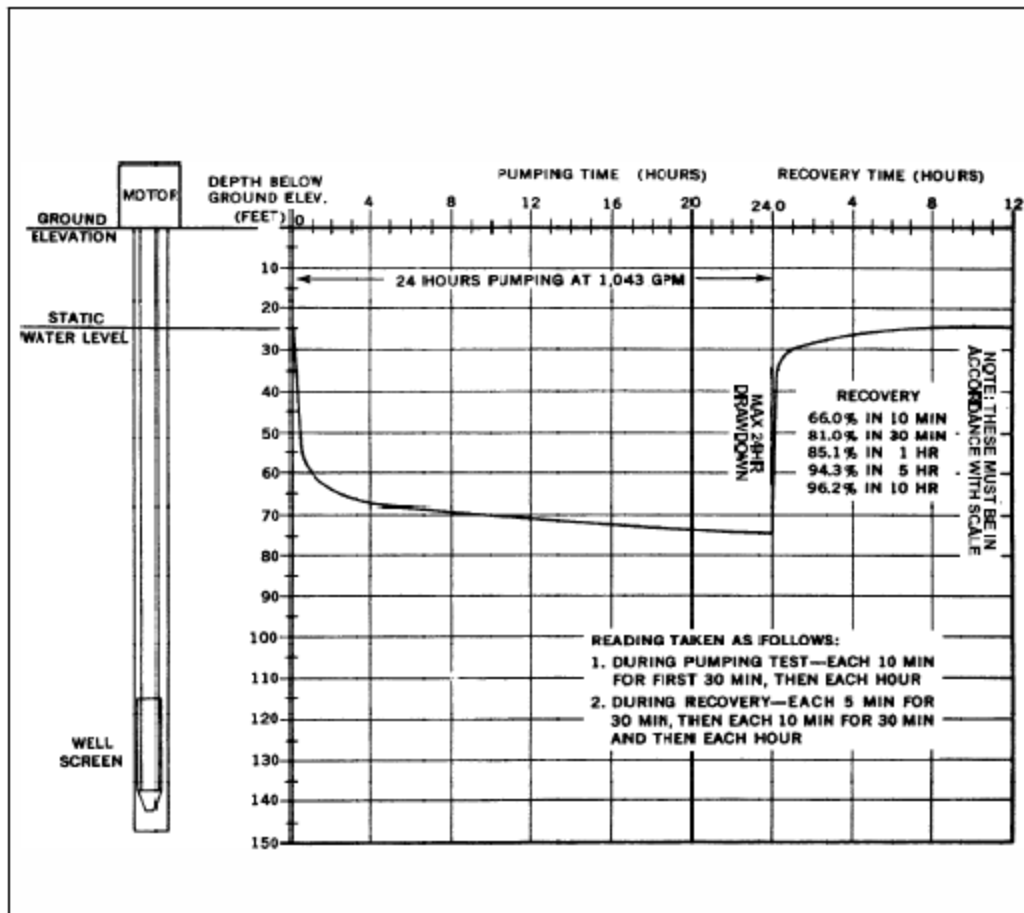

Figure 2
**4.5.4 STARTING A NEW WELL PUMP.** Table 9 lists startup procedures for vertical turbine well pumps. While plant operators will not generally be responsible for performing these startup procedures, they may be charged with overseeing the contractors performing the installation. Also, it is preferable that plant operators are familiar with the startup tasks. Figure 2 shows the necessary water-level checks. If problems occur, refer to the troubleshooting checklist provided in Table 10.